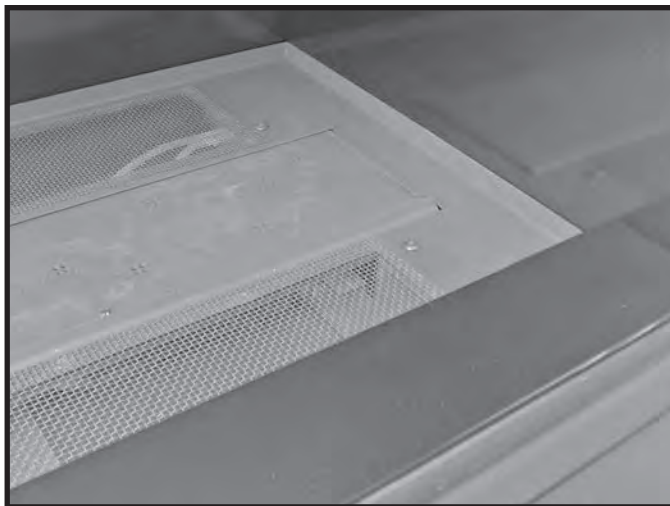

Figure 58: Front panel in place.
7. Rest the front panel over top of the horizontal support (Figure 58). Be sure that the long vertical edge of the panel is facing toward the front of the fireplace.